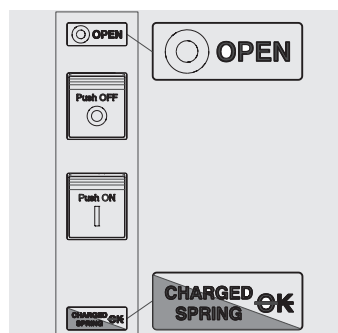

Figure 35
5. Circuit-breaker open with springs charged and not ready to close (see Figure 35). This state occurs in the following cases: